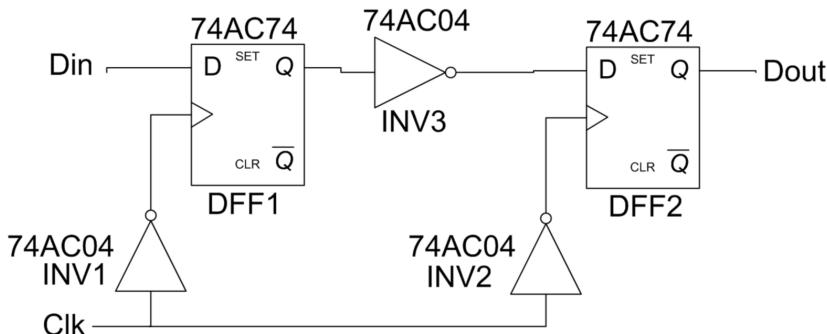

Abbildung 32: Circuit
- assume the circuit from Figure 32 and the datasheet from Figure 33
Answer the following questions for the circuit given in Figure 32: